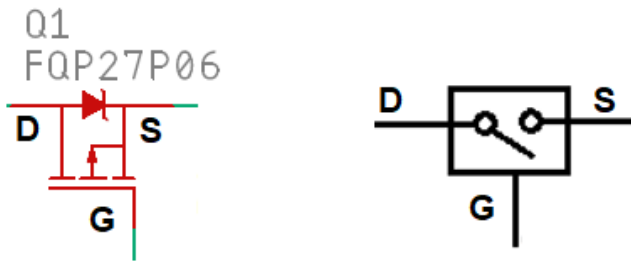

Figure 5: The schematic of the PMOS transistor used in the reverse voltage protection circuit.
The reverse voltage protection circuit consists of three components, the PMOS transistor Q1, resistor R5 and Zener diode D1. In order to understand how this circuit functions, you first need to understand the behavior of the PMOS transistor. The 3-terminals of a MOSFET are called the drain (D), gate (G), and source (S). The left side of Figure 5 shows the schematic view of a MOSFET with these terminals labeled.
We will use the PMOS transistor as a voltage-controlled switch as shown on the right side of Figure 5. The behavior of this switch is given by the following two statements.